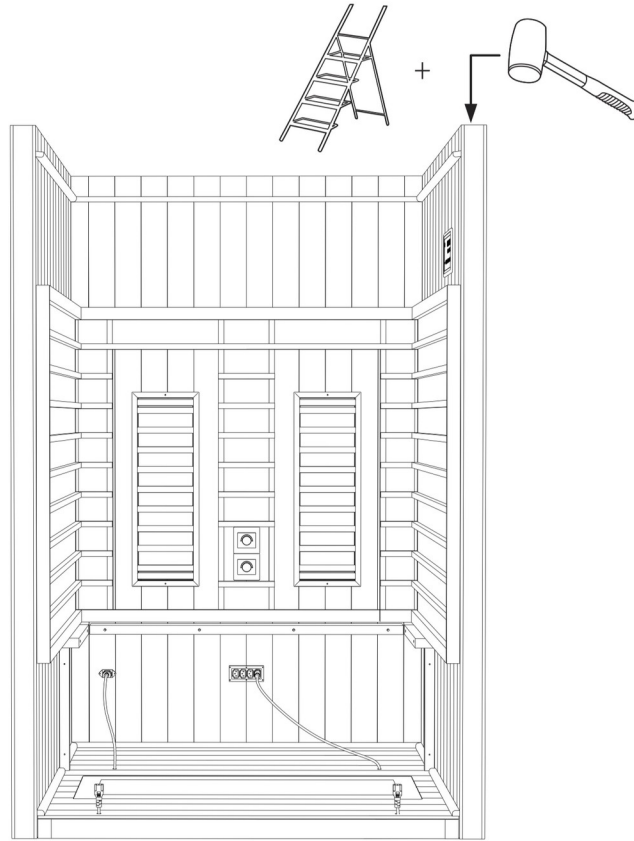

Figure 8. Right Panel (C) installed, with the control panel near the top of its interior face.
- Position the Right Panel (C) against the right edge of the Back Panel, right as you face the front of the sauna, and connect its three concealed buckles to the Back Panel, exactly as you did on the left side (Figure 8).